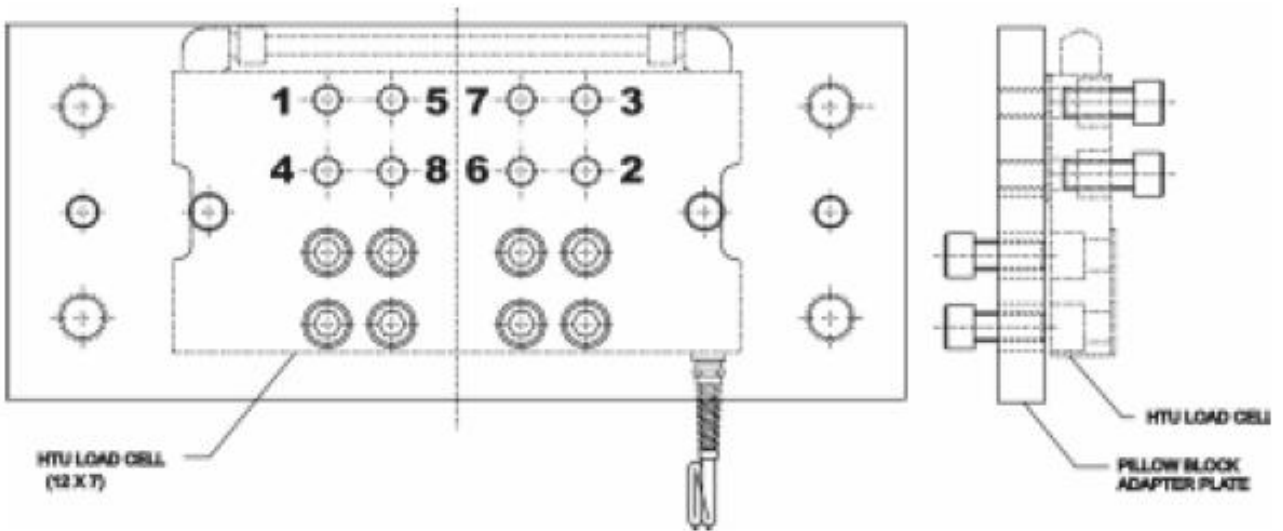

Figure 2-3. HTU to Pillow Block Plate Assembly
1. Place the pillow block adapter plate on a clean flat surface with the threaded holes in back and the through holes forward (Figure 2-3).
3. Apply thread locker (BLH P/N 147379) to the eight (8), 5/8-11UNC2Ax1^{1/2} inch long sockethead cap screws.
5. Using the pattern shown in Figure 2-3, sequentially tighten all screws to one thousand (1000) inch-pounds.